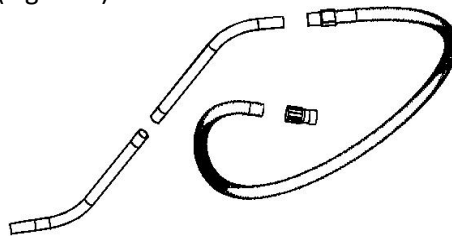

Figure 3
3. Put the hose end with the short connector into the square connector and insert the switch of the square connector into the groove of the short connector. The other end of the hose should be attached with different fittings according to the cleaning work, such as the dry floor nozzle assembly, the wet floor nozzle assembly. (Figure 3).